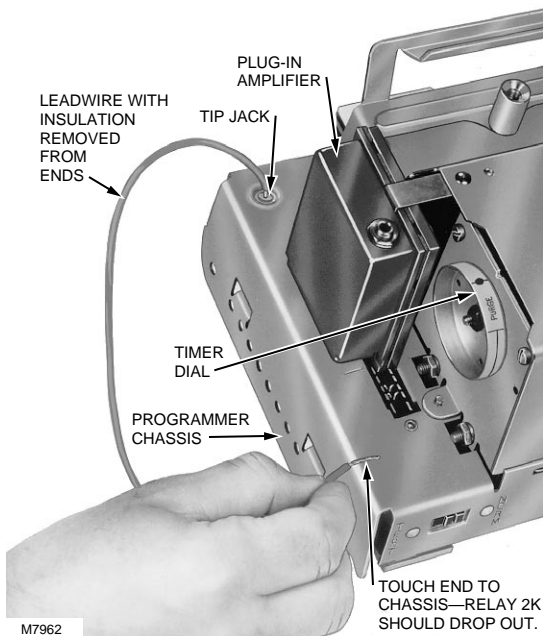

Fig. 12. Checking plug-in flame signal amplifier for 2K hold-in (R7247A or R7249A only).
- 4 If the plug-in flame signal amplifier is an R7247A Rectification Amplifier (green) or an R7249A Ultraviolet Amplifier (purple), momentarily short the tip jack to the programmer chassis (Fig. 12). If this does not cause relay 2K to drop out, open the master switch and install a new amplifier.